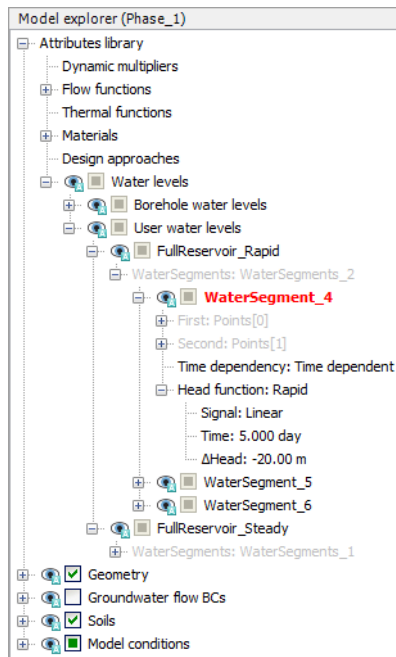

Figure 8.9 Properties of the lowering water segment
- Select the *Rapid* option for the *HeadFunction* parameter. Figure 8.9 shows the